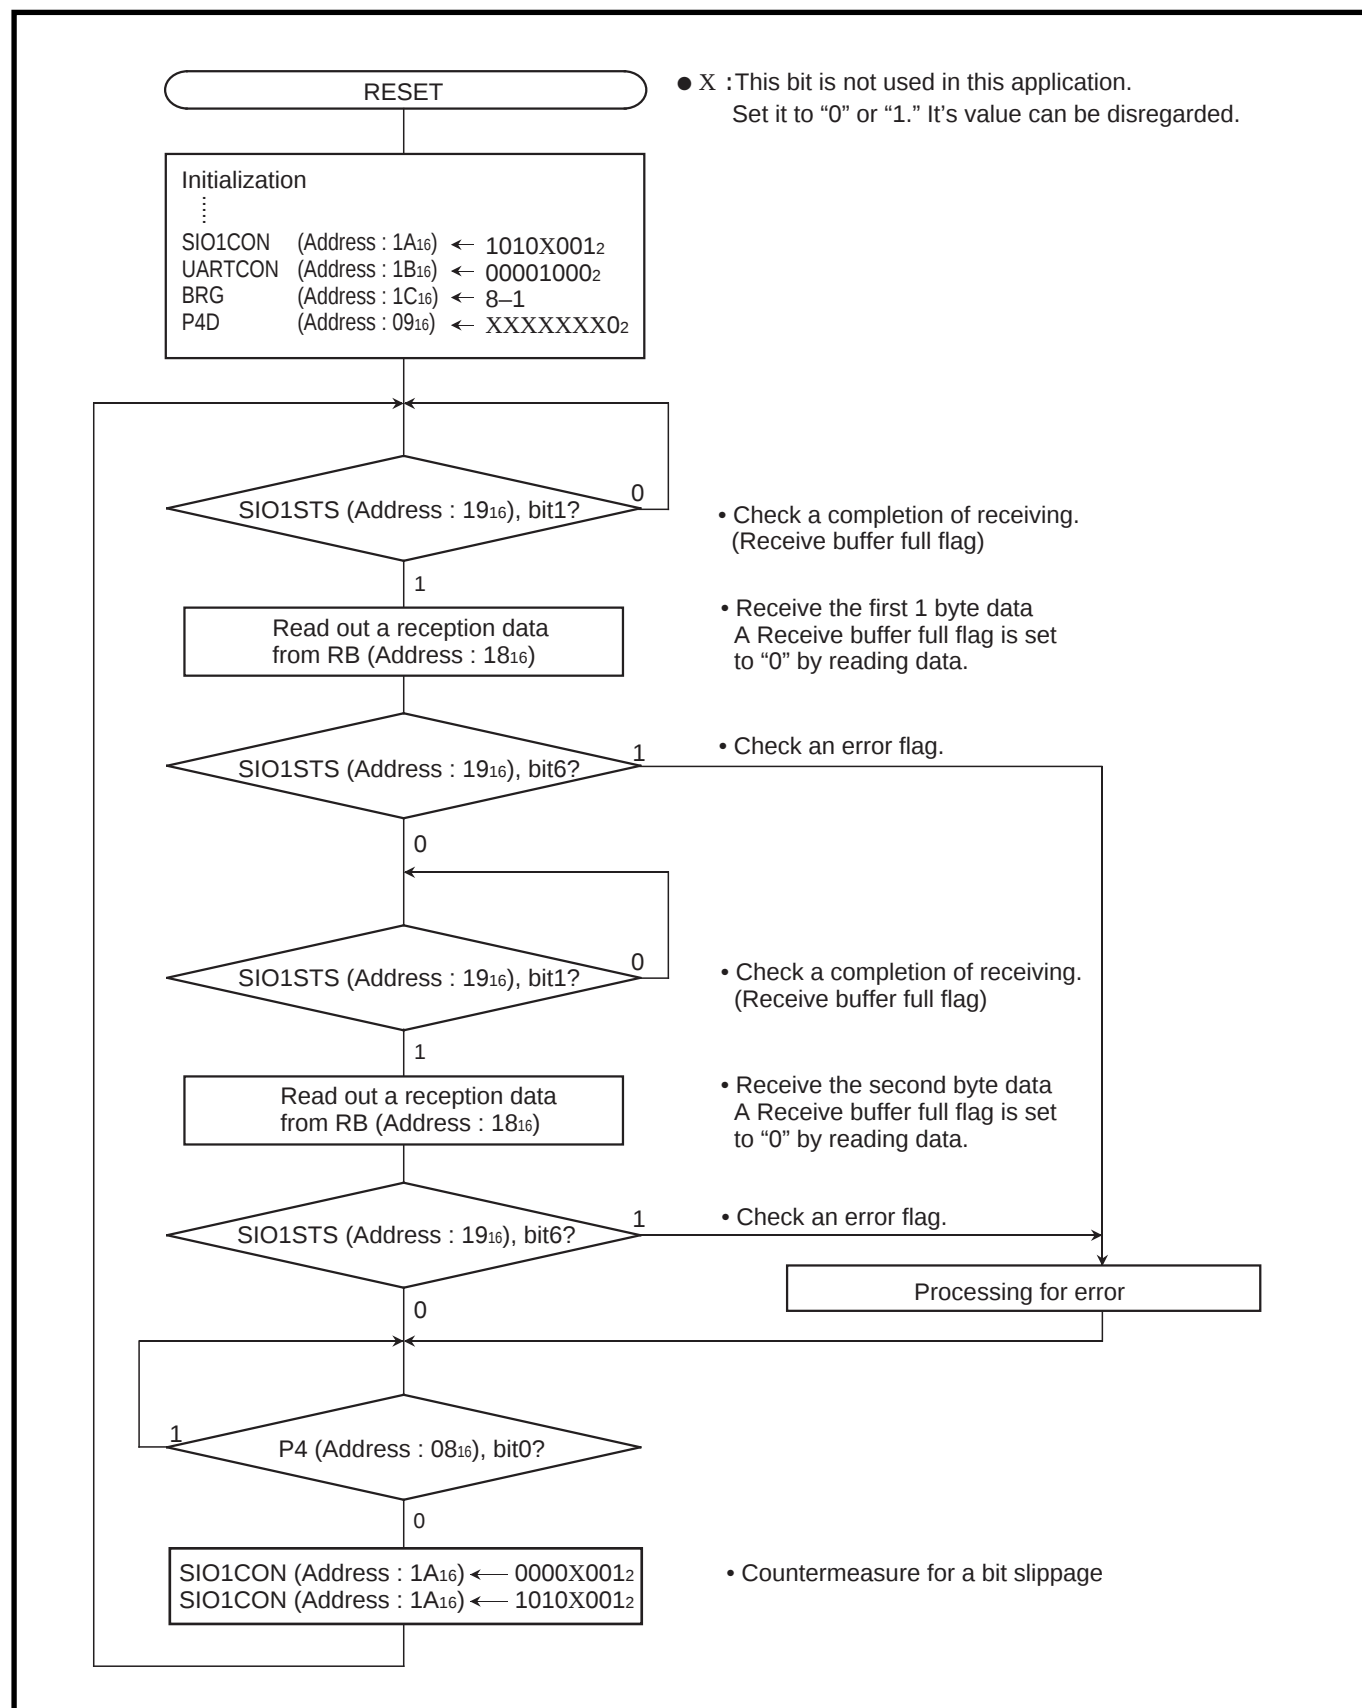

Fig. 2.3.41 Control procedure at a receiving side [Communication using UART]
**Control procedure :** Figure 2.3.40 shows a control procedure at a transmitting side, and Figure 2.3.41 shows a control procedure at a receiving side.